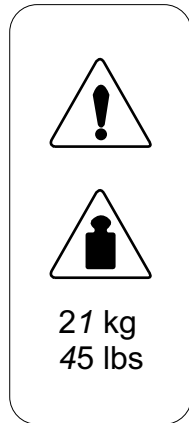

Figure 14. Weight label on battery unit of uninterruptible power supply
3. Weight label. See Figure 14 on page xxii.